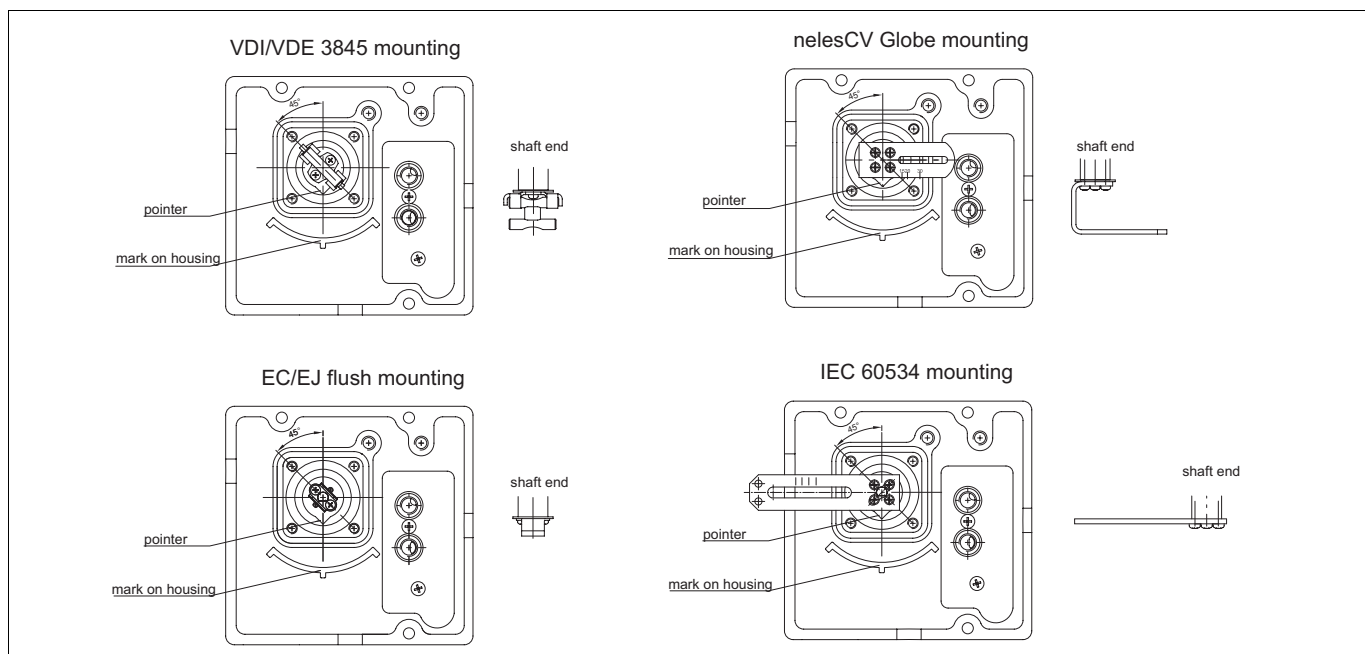

Fig. 5 Shaft coupling alternatives
Shaft coupling alternatives for the controller for Metso Automation actuators are shown in Fig. 5.
- ❑ Mount the U-shaped coupling (47) to the shaft. Apply thread-locking compound to the screws (48) and tighten firmly.
- ❑ Remove all protective plastic plugs (5 pcs.) from all pneumatic connections. Mount the metal plugs (53) to the unused controller connections with sealant (shown in 12.3 - 12.5)
- For EJ (single acting, spring to close) and EJA (single acting, spring to open) actuators, mount a metal plug (54) with sealant to the C1 connection at the bottom of the controller.
- ❑ E\_05 actuator requires a mounting plate (39). Ensure the coupling plate is mounted as shown in 12.4 and 12.5. Note the O-rings (38).
- ❑ Mount the O-ring (49) into the square groove in the bottom of the controller.
- ❑ Place the valve controller on top of the actuator so that the pointer of the shaft washer (16) is located in the position shown in Fig. 5.
- ❑ Fasten the screws (4).
- ❑ Mount the H-shaped coupling (47) to the shaft. Apply the thread-locking compound to the screw (48) and tighten firmly.
- ❑ Remove all protective plastic plugs from the pneumatic connections (5 pcs.). Mount the metal plugs (54) with sealant to the unused controller connections at the bottom of the controller.
- ❑ **BJ and other single acting actuators:** mount a metal plug (53) with sealant to the C1 connection.
- ❑ Set the direction arrow of the actuator in the direction of the valve closure member and attach the ear (2) to the indicator cover in the position shown in Section 12.6. Secure the screw of the ear using e.g. Loctite and tighten firmly.
- ❑ Attach the bracket (1) to the ND9100F.
- ❑ Attach the bracket (1) to the actuator. The shaft coupling of the ND9100F must fit into the ear (2) so that the pointer of the shaft washer (16) is located in the position shown in Fig. 5.